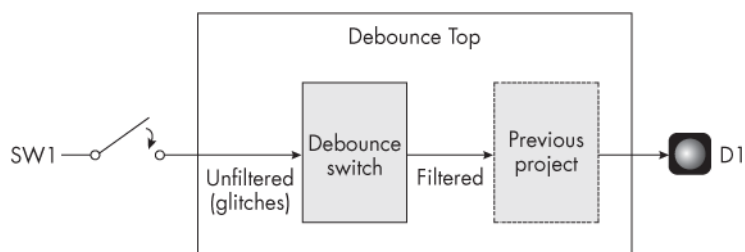

Figure 5-6: The Project #4 block diagram
The number of bounces on a switch is somewhat random, so pushing the switch enough times got the LED to toggle successfully. Still, it would be better if the LED toggled as expected each time the switch is pressed and released. To make this happen, we need to add a *debounce filter* to the switch. That is, we need to program the FPGA to ignore the bounces. Figure 5-6 illustrates how this will work.
The code matches the block diagram in Figure 5-6. At the highest level we have `Debounce_Project_Top`, which instantiates two other modules. The first is the new debounce filter ❶, which we'll examine next. The second is the `LED_Toggle_Project` module that we created in the previous chapter ❸. It's worth taking a minute to follow the signals here. We can see the input signal `i_Switch_1` going into the debounce filter. Out of that comes `w_Debounded_Switch`, which is the debounced version of this input. This is passed into the `LED_Toggle_Project` module. The output of that module is `o_LED_1`, which will be connected to the LED pin on your development board. Note that indicating the direction of your signals via their names, as we do here with the `i_` and `o_` prefixes, becomes very helpful as your designs get larger and incorporate more signals.